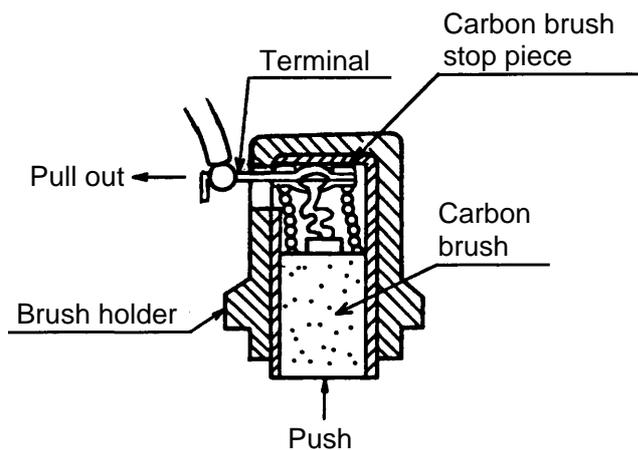
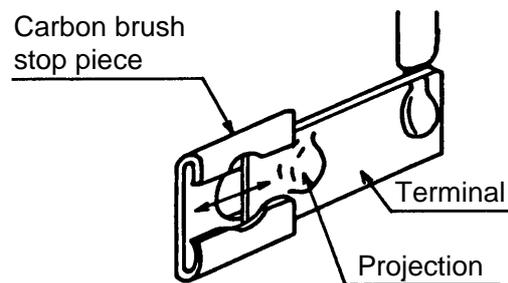

Fig. 8
Fig. 9
(2) Removal of the carbon brushes
With a small slotted head screwdriver, slightly lift the Brush Holders **[49] <47> (49)**. Then, while pushing the Carbon Brushes **[48] <46> (48)** to the bottom of the Brush Holders, gently pull out and disconnect the internal wire terminals. (See Fig. 8 and Fig. 9)